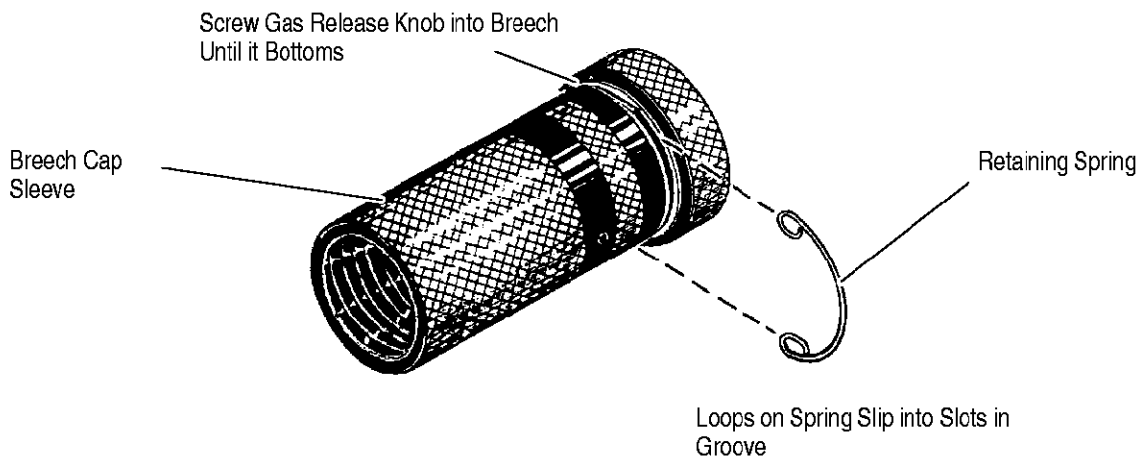

Figure 47
2. Pry one end of retaining spring (see Figure 47) out of slot with screwdriver or corner of cleaning tool. Remove the spring and unscrew gas release knob.
6. Install retaining spring by placing one end of loop into slot in breech cap sleeve groove. Slide other loop into groove and snap spring into place. See Figure 47. Unscrew gas release knob against retaining spring loops to ensure that they are properly seated in slots.